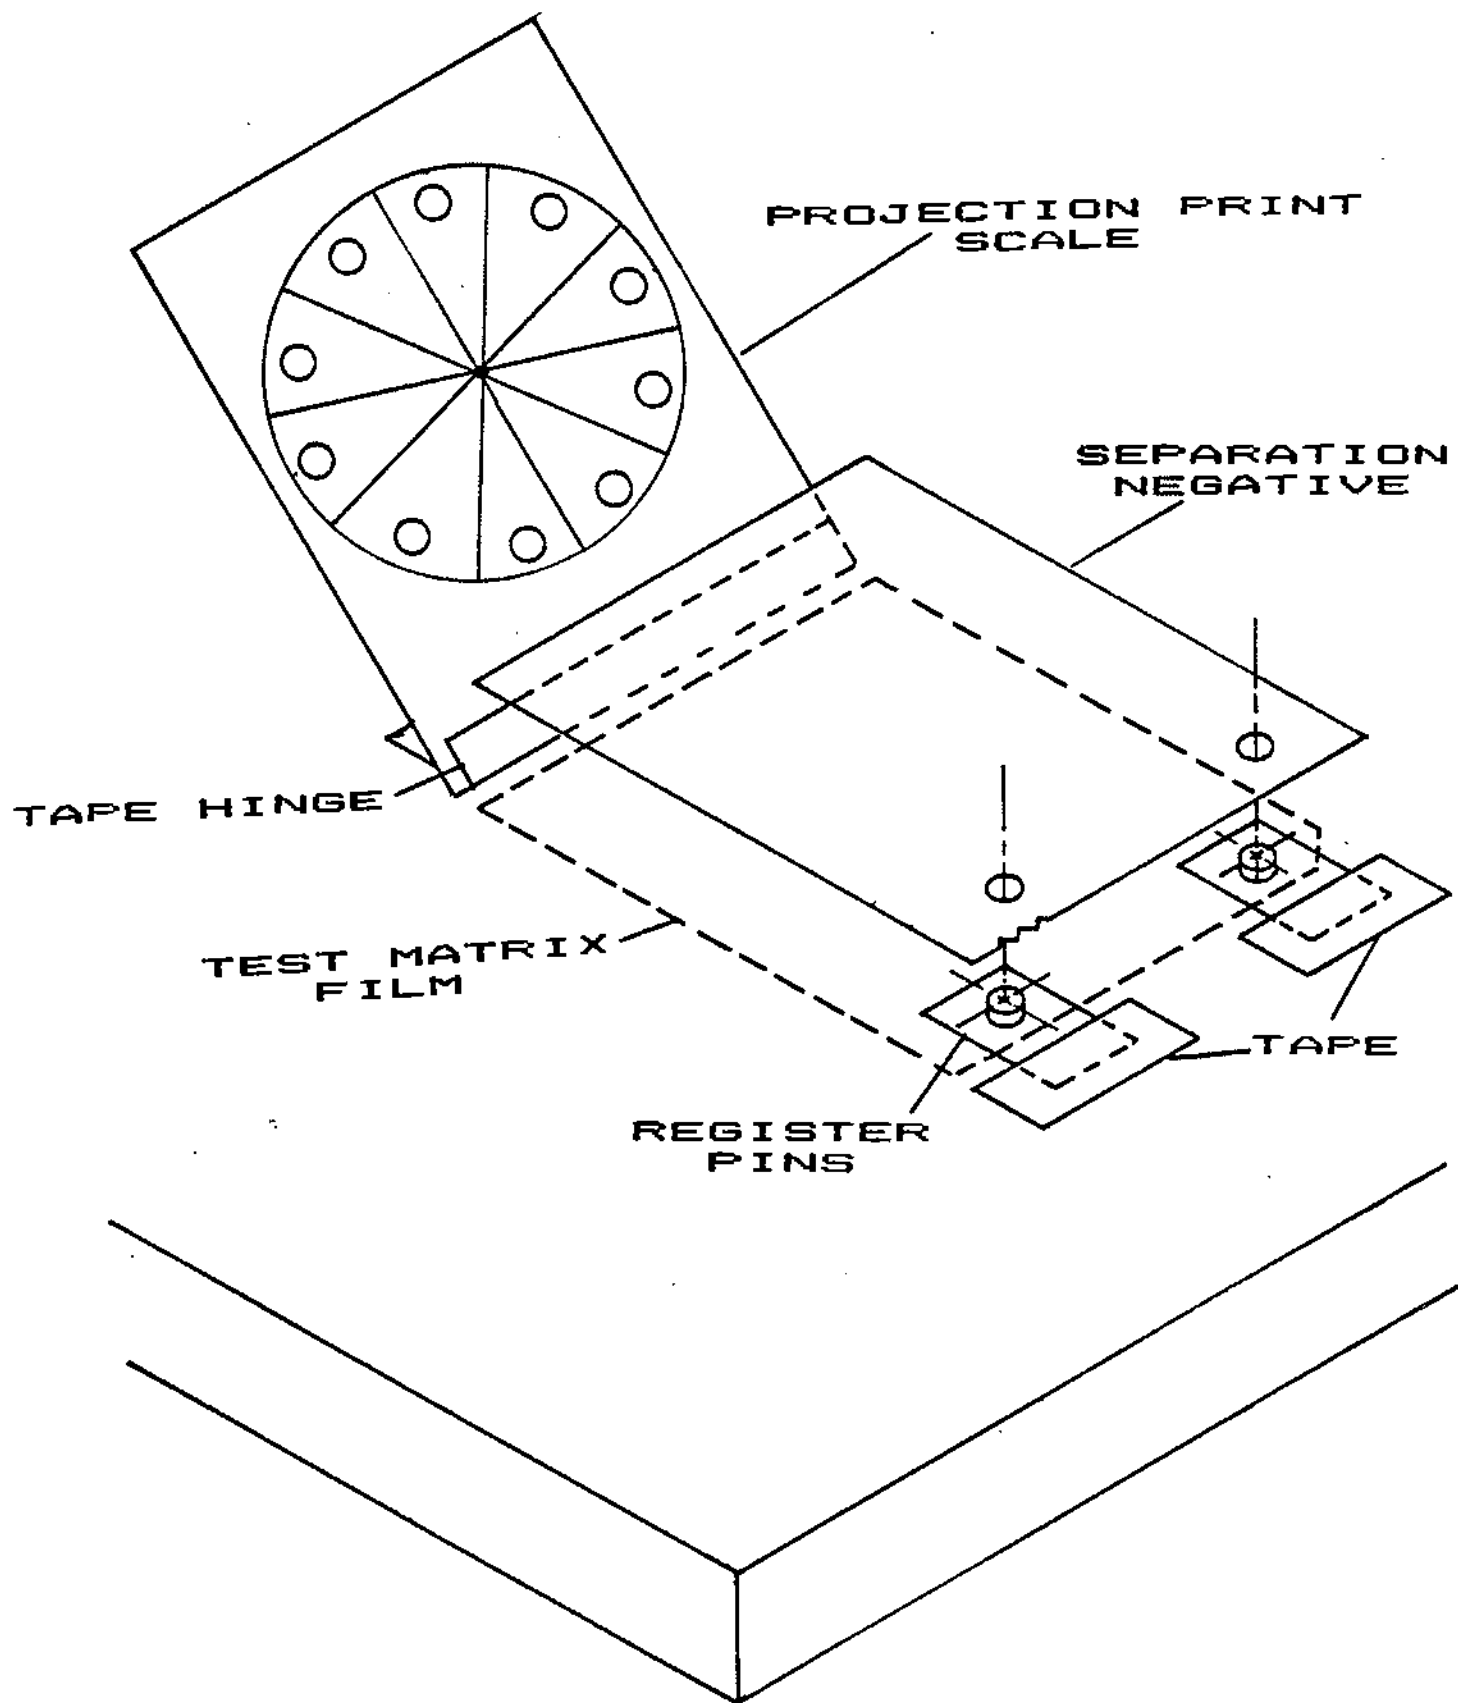

FIGURE 5.1.1
red separation on the pins. Take the projection print scale and position it so its center is overlaying the center of the image. When this is accomplished, tape the outside edge of the projection scale so it acts as a hinge to allow removal of the separation negative. See Figure 5.1.1.
Use the same set up with the register pins and projection scale as described in method #1 and shown in Figure 5.1.1. Expose the film and make the exposure corrections as discussed.
5.1.2.3 Test Procedure #3 (Selected Area Print). This procedure is a variation on the two previous methods. This method is most useful for 35mm contact separations. The separation is put into the enlarger and the enlarger is raised to the desired enlargement size. The separation is left in the carrier. Choose a area in the print such as a neutral gray or skin tone. Make all tests in that portion of the image. Again, use the projection scale and register pins as shown in Figure 5.1.1.